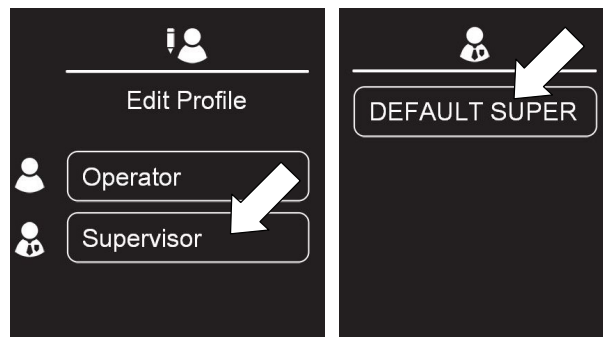

FIG. 191
4. Press the Supervisor button then press the DEFAULT SUPER button (Figure 191).